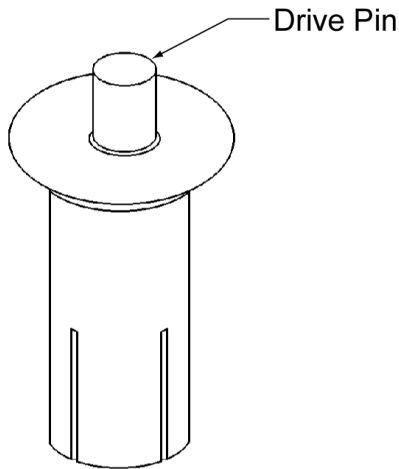

Figure 15
- 4.6.3 Attach the new lining to the backing plate with new screws and locknuts or drive pin rivets (See **Figure 15**), as applicable. Work from the center of the